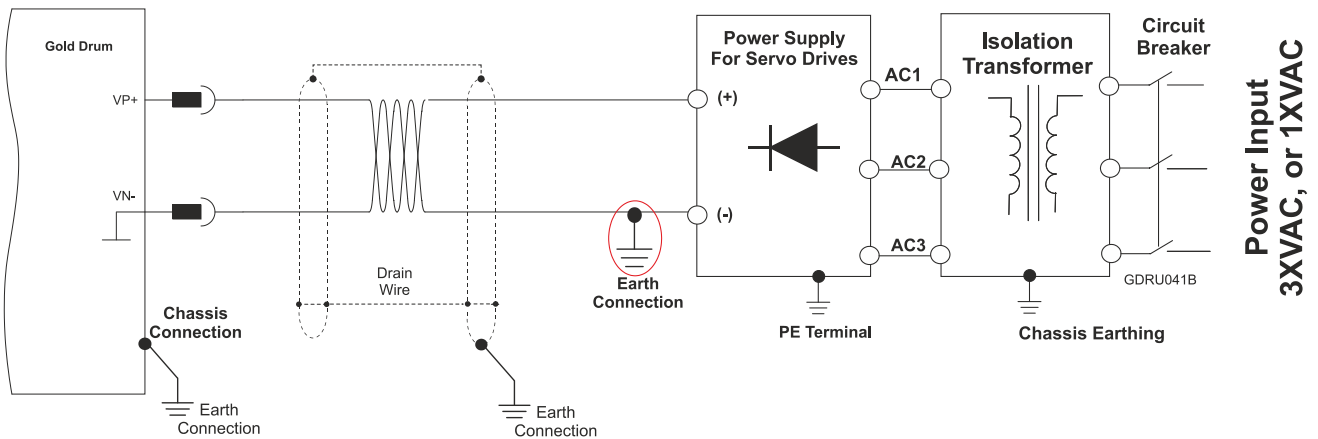

Figure 12: Isolated from the Mains DC Power Supply connection
- In the Isolated connection the G-DRU VN- terminal **MUST** be connected to the "Earth Connection" (marked in red in Figure 12 above).